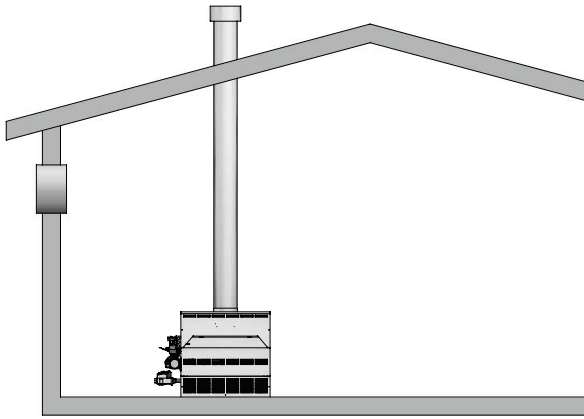

Figure 1-6_ Combustion Air from Outside Single Opening
4. If a single combustion air opening is provided to bring combustion air in directly from the outdoors, the opening must be sized based on a minimum free area of one square inch per 3000 Btu/hr (7 cm² per kW). This opening must be located within 12" (30 cm) of the top of the enclosure (see FIG. 1-6).